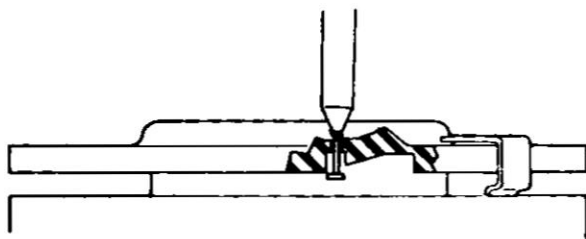

Figure 10. Use of Standard Escutcheon Tool H-886316-1 to Unlatch W.E. Co. Polycarbonate Fingerwheel.
- (1) Insert the escutcheon tool into the small hole in the raised rim around the number card between the 9/WXY and zero finger holes.
- (2) Rotate the dial clockwise, trying to dial a number greater than zero.
- (3) Remain holding the turned dial and press downward on the escutcheon tool (see Figure 10) until the clamping plate releases.